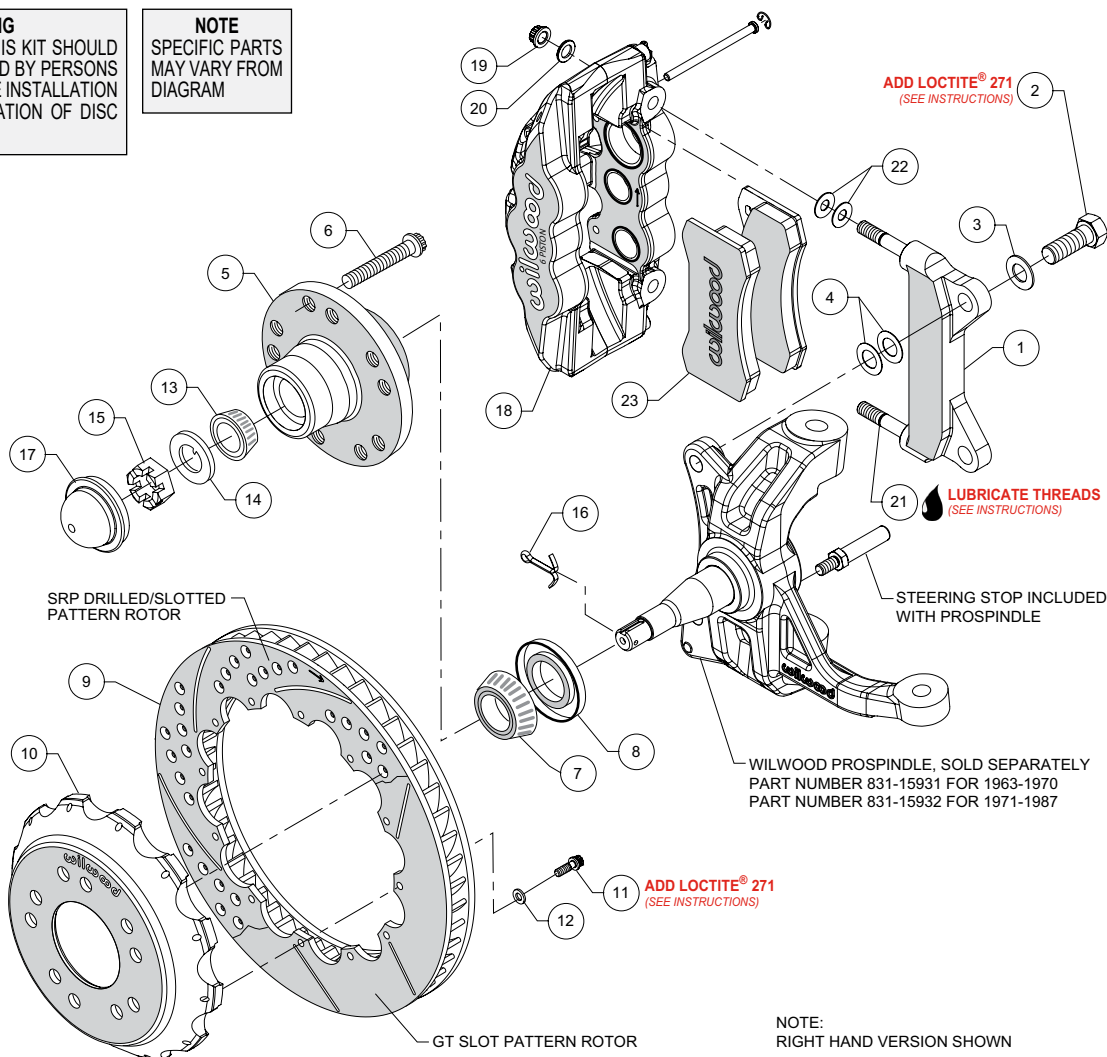
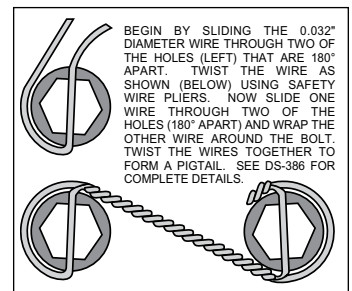

Figure 1. Typical Installation Configuration
Figure 3. Safety Wire Diagram
**NOTE:** Numbers in parenthesis refer to the parts list and Figure 1 on the preceding pages.
- Install the steering stop bolt (included with the ProSpindle) into the spindle as shown in Figure 1 and Photo 1. Torque to 25 ft-lbs.
- The caliper mount bracket (1) should initially be installed with clean, dry threads on the mounting bolts. Orient the bracket, as shown in Figure 1 and Photo 2, and install using bolts (2) and washers (3). Initially place two .024" thick shim (4) on each bolt between the bracket and spindle, Figure 1. Temporarily tighten the mounting bolts. **NOTE:** The bracket must fit squarely against the mount bosses on the spindle. Inspect for interference from casting irregularities, machining ridges, burrs, etc. Later, after the caliper alignment has been checked, the mount bolts will be secured using red *Loctite*® 271.
- Pack the small outer bearing cone (13) with high temperature disc brake bearing grease and install into hub (5). Slide the hub assembly onto the spindle. Secure using spindle washer (14) and spindle nut (15), Photo 6. Adjust bearings per OEM specifications. Install a new cotter pin (16).
- Press the dust cap (17) into the hub (5). **NOTE:** Do not hammer center of cap. Install using outer flange only.
- Orient the rotor (9) and the hat (10) as shown in Figure 1 and Photo 7. Attach rotor to hat using bolts (11) and washers (12). Using an alternating sequence, apply red *Loctite*® 271 to the threads, and torque to 155 in-lbs. For an added measure of security, the bolts may be safety wired using standard 0.032 inch diameter stainless steel safety wire as shown in Figure 3. Refer to Wilwood's data sheet DS-386 (available at [www.wilwood.com/Pdf/DataSheets/ds386.pdf](http://www.wilwood.com/Pdf/DataSheets/ds386.pdf)) for complete safety wire installation instructions.
Initially place two .030" thick shims (22) on each stud between the caliper and the bracket, as shown in Figure 1 and Photo 9. Mount the caliper (18) onto the bracket (1) using lock nuts (19) and washers (20), Figure 1. Temporarily tighten the lock nuts. Ensure that the caliper is mounted so that the largest pistons are at the rotor exit end of the caliper, in relation to the direction of rotor rotation. View the rotor through the top opening of the caliper. The rotor should be centered in the caliper, Photo 10. If not, adjust by adding or subtracting shims (4) between the bracket and the spindle. Always use the same amount of shims on each of the two mounting bolts. Once the caliper alignment is correct, remove the bracket mounting bolts one at a time, apply red *Loctite*® 271 to the threads, and torque to 140 ft-lb.
- Remove the caliper (18), then remove the two pad retaining pins from the caliper by carefully popping out the pin retaining clips and sliding out the pins. Insert the brake pads (23) into the caliper from the bottom, Figure 1 and Photo 11. With the friction material facing the rotor, secure the brake pads in place with the pad retaining pins and clips, Photo 12. Reinstall the caliper onto the caliper mounting bracket and temporarily tighten the lock nuts. Check that the top of the brake pad is flush with the outside diameter of the rotor, Photo 13. If not, adjust by adding or subtracting shims (22) between the caliper and the bracket. After the caliper pad height is set, torque the caliper lock nuts (19) to 47 ft-lb.